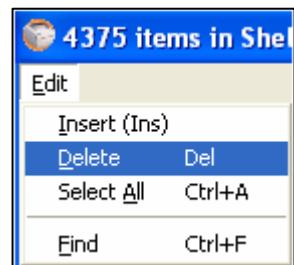

Figure 152
13. The second option in the ‘Edit’ menu is the ‘Delete’ option. This option deletes shelf labels that are no longer required in the queue (as shown in Figure 152).